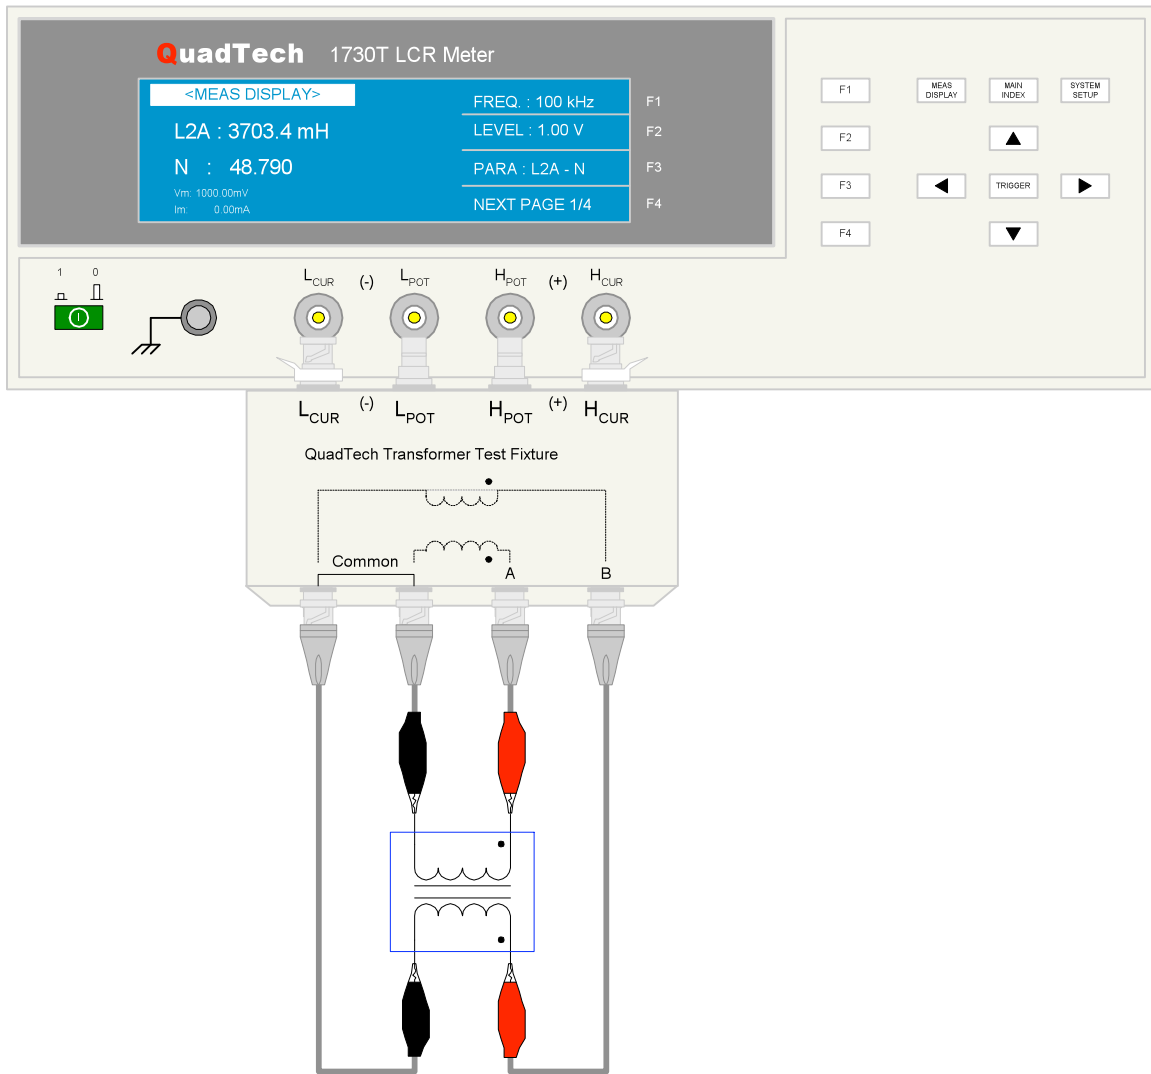

Figure 2-15: Transformer Test Fixture
Figure 2-15 illustrates the 630166 Transformer Test Fixture connected to the 1730T LCR Meter. The 1730T instrument measures turns ratio (N), turns ratio inverse ($1/N$), mutual inductance (M) and DC resistance ($R2$) of transformers and wound components. Refer to paragraph 2.4.3, Parameter, for programming instructions for N , $1/N$, M and $R2$.